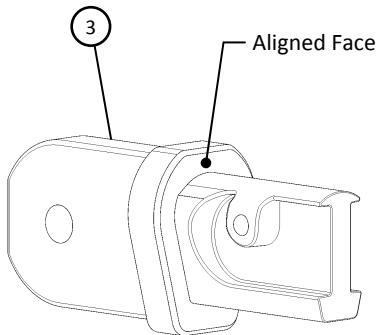

Figure 9
7) **See Figure 9 & 10.** Rotate the Double Bow Arm and align with the Arm End Pivot Casting (3) attached to Pivot Bracket as shown. Mark the Tension Bow Arm at the face of the Pivot Arm End Cap.